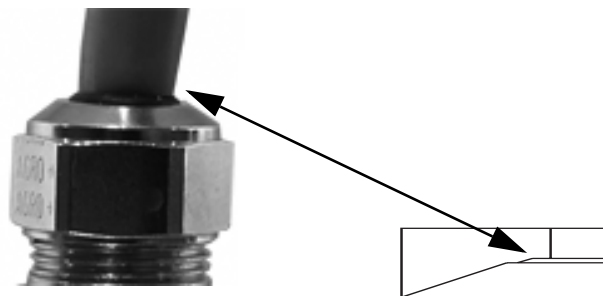

Figure 2-3. Proper Cord Grip Compression
- Lower the domed cap onto the cord grip stem and tighten until a small swelling of the rubber of the reducing gland appears between the domed cap and cable (see Figure 2-3).
11. Lower the domed cap onto the cord grip stem and tighten until a small swelling of the rubber of the reducing gland appears between the domed cap and cable (see Figure 2-3).
8. Lower the domed cap onto the cord grip stem and tighten until a small swelling of the rubber of the reducing gland appears between the dome cap and the cable (see Figure 2-3).
6. Lower the domed cap onto the cord grip stem and tighten until a small swelling of the rubber of the reducing gland appears between the domed cap and the cable (see Figure 2-3).
7. Tighten until a small swelling of the rubber between the domed cap and the cable builds (see Figure 2-3).